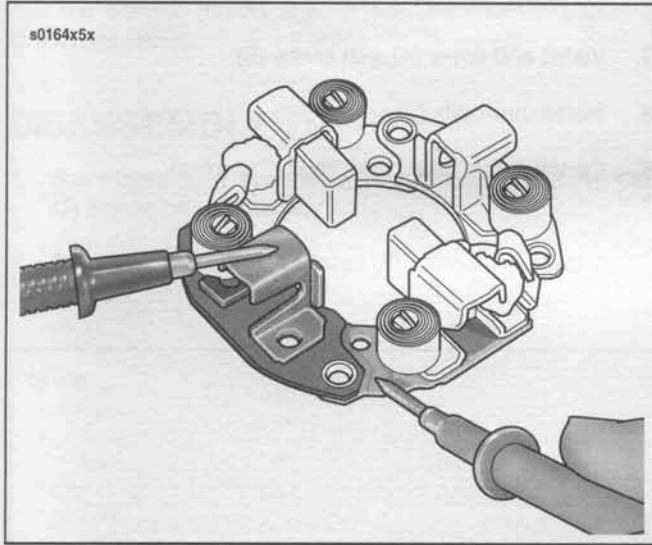

Figure 5-22. Brush Holder Insulation Test
- See Figure 5-22. Test BRUSH HOLDER INSULATION with an ohmmeter or continuity tester. Touch one probe to holder plate and the other probe to each of the positive (insulated) brush holders. There should be no continuity (infinite ohms). If there is continuity at either brush holder, the brush holder assembly should be replaced. Touch one probe to the non-insulated brush holders and the other probe to the holder plate. If you measure any resistance, the brush holder must be replaced.